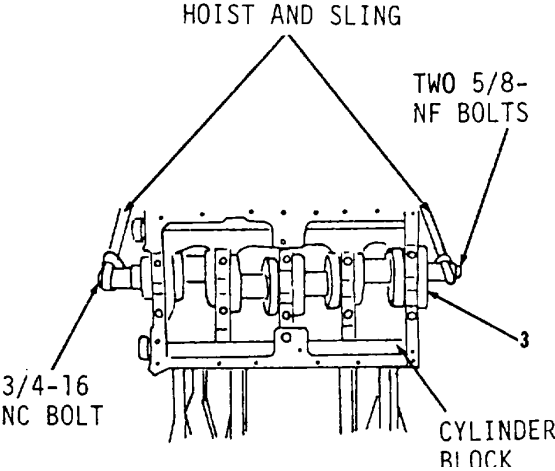

Figure 13-11.
- 5. Using hoist and sling, position crankshaft (3, Figure 13-11) on cylinder block. Make sure the C marks are in alignment.
- 6. Remove hoist and sling from crankshaft (3).